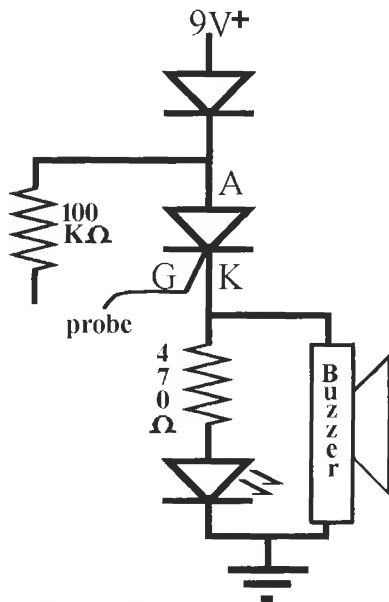
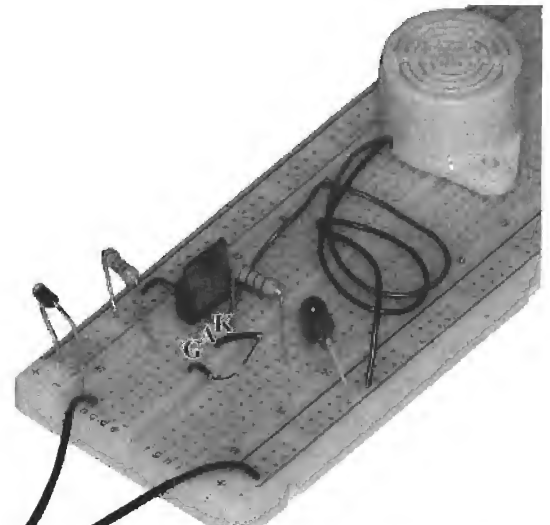

Figure L12-3
Figure L12-4
Build the basic SCR circuit by carefully following the schematic presented in Figure L12-3. The parts layout is shown in the photograph in Figure L12-4 (see also
**Table L12-1** Parts list for Figure L12-4